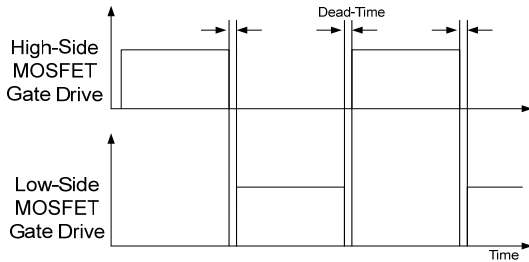

Figure 18. MOSFET Gate Drive Signals
**1. Basic Operation:** FSFR-HS series is designed to drive high-side and low-side MOSFETs complementarily with 50% duty cycle. A fixed dead time of 350ns is introduced between consecutive transitions, as shown in Figure 18.